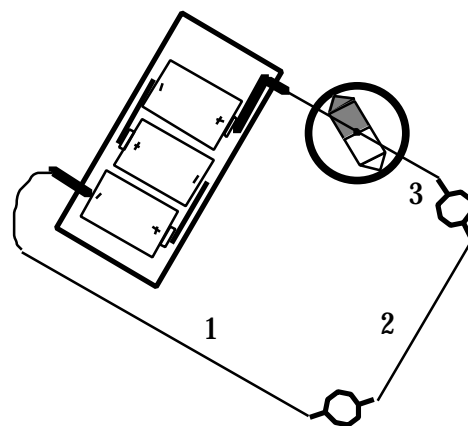

Figure 1.7
1. Figure 1.7 shows the same circuit as in Activity 1.2. Draw arrows next to each of the three wires to show the conventional direction of charge flow in these wires.